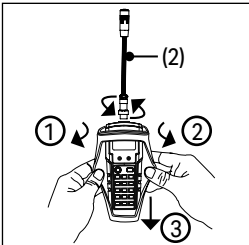
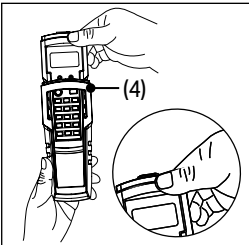

Fig. 1
Fig. 2
1. To fit or replace the battery, first remove the probe (2) and protective case (4). Fig.1 & Fig.2.